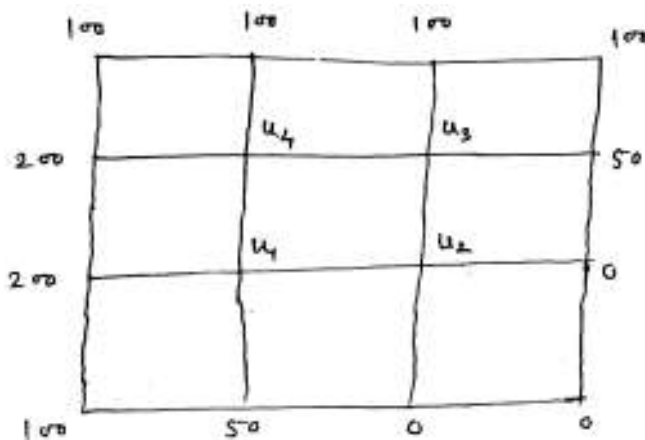

Fig. 11 (a)
11. a) Given the values of $u(x, y)$ on the boundary of the square plate in Fig. 11 (a), evaluate the function $u(x, y)$ at the nodal points, satisfying the Laplace equation